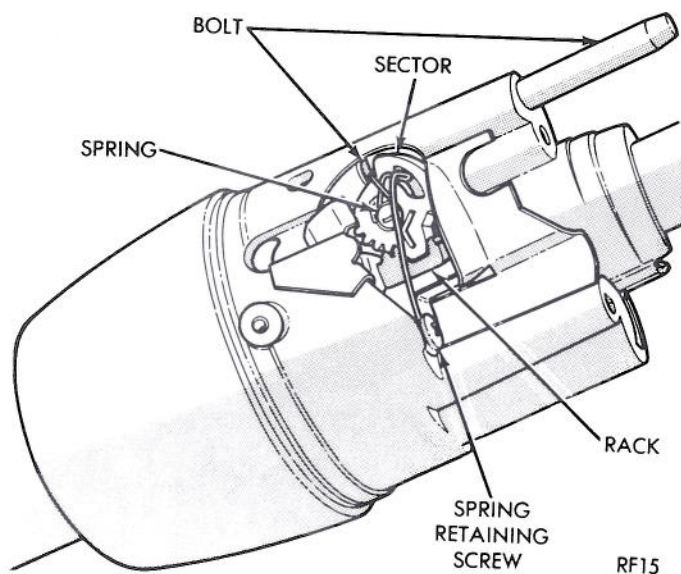

Fig. 14—Sector and Bolt Spring
(1) Remove lock bolt spring by removing spring retaining screw and moving spring clockwise to remove from bolt (Fig. 14).
(2) With a small hammer and small punch, lightly tap the drive shaft from sector. Remove drive shaft, sector, and bolt. Remove rack and rack spring (also shim if one is used).
(3) Remove tilt release lever pin with punch and hammer. Remove lever and release lever spring. (To relieve load on release lever, hold shoes inward and wedge block between top of shoes (over slots) and bearing housing).
(4) Remove lock shoe pin with punch and hammer. Remove lock shoes and lock shoe springs.
(5) Remove bearings from bearing housing **only if they are to be replaced**. Remove separator and balls from bearing. Place housing on work surface. With a pointed punch against back surface of race, carefully hammer race out of housing. Repeat for other race. Do not reuse bearings.
(3) Install spring, release lever, and pin in bearing housing. (Again, relieve load on release lever as in step (3) of disassembly procedure.)
(4) Install drive shaft in housing. Lightly tap sector onto the shaft far enough to bottom on drive shaft.
(5) Install lock bolt and engage with sector cam surface.
(6) Install rack and spring. Block tooth on rack to engage block tooth on sector. Install external tilt release lever.
(7) Install bolt spring and spring retaining screw. Tighten to 35 in. lbs. (4 N·m) (Fig. 14).
(8) Install shift lever spring in bowl by winding up with pliers and pushing in. Slide bowl into jacket.
(9) Install wave washer and jacket mounting plate in place. Work jacket mounting plate into notches in jacket by tipping jacket mounting plate toward bowl hub at 12 o'clock position and under jacket opening. Slide jacket mounting plate into notches in jacket.